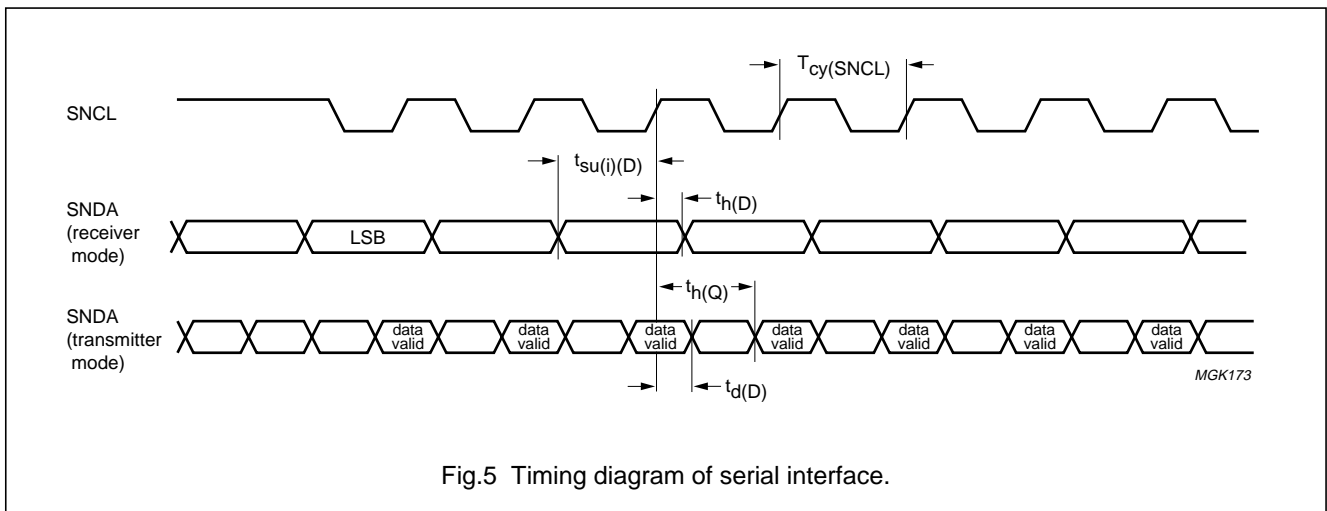

Fig.5 Timing diagram of serial interface.
**Table 10** Timing characteristics (see Fig.5)